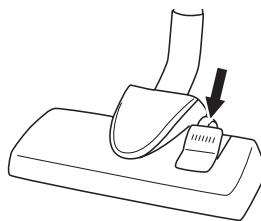

Figure 4                  *Soft and hard surfaces*
4. Press the foot button on the nozzle to set the combi nozzle for use on hard or soft surfaces, see Figure 4. For use on hard surfaces, press the foot button on the combi nozzle to extend the brushes. Lift the button for use on soft surfaces.